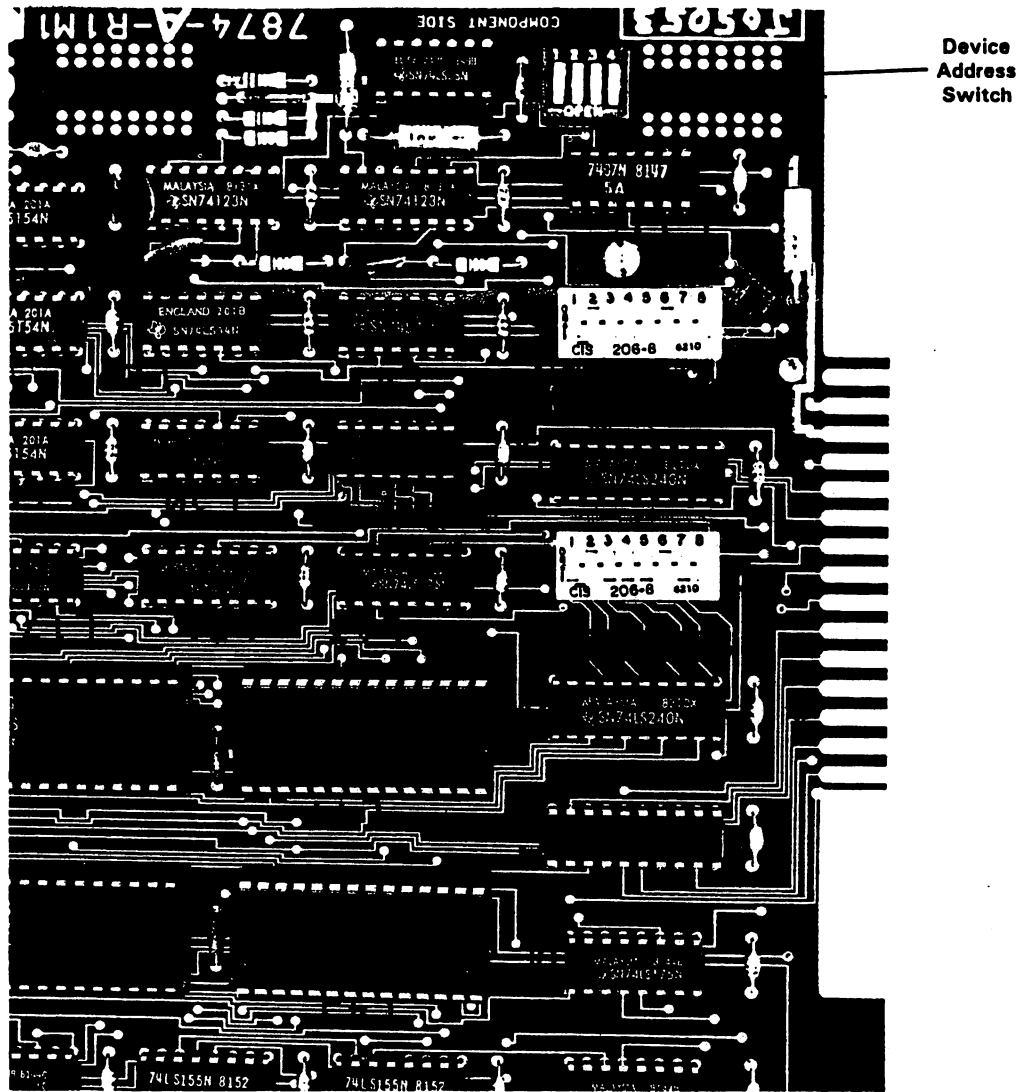

Figure D-2 Device Address Switches
3. Locate the 4-position DIP switch on the 2236MXE Terminal Processor used to set the device address. (Refer to Figure D-2).